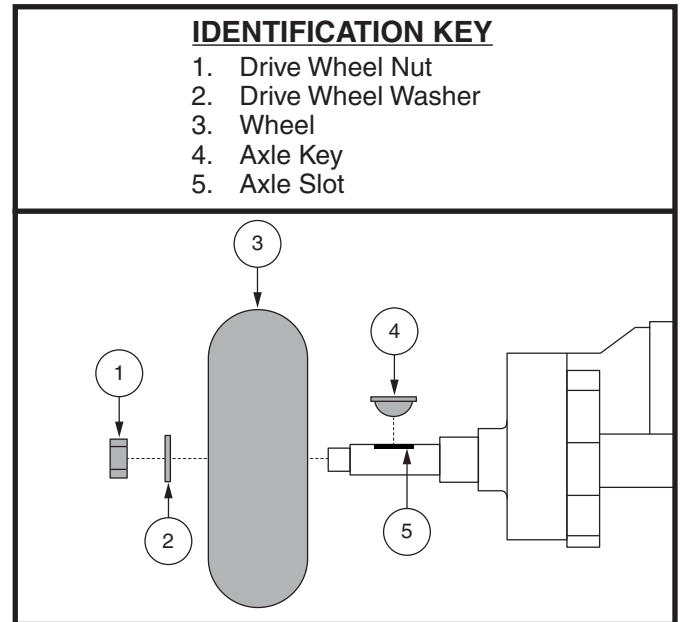

Figure 35. Wheel Replacement
3. Remove the drive wheel nut and washer from the axle. **See figure 35.**